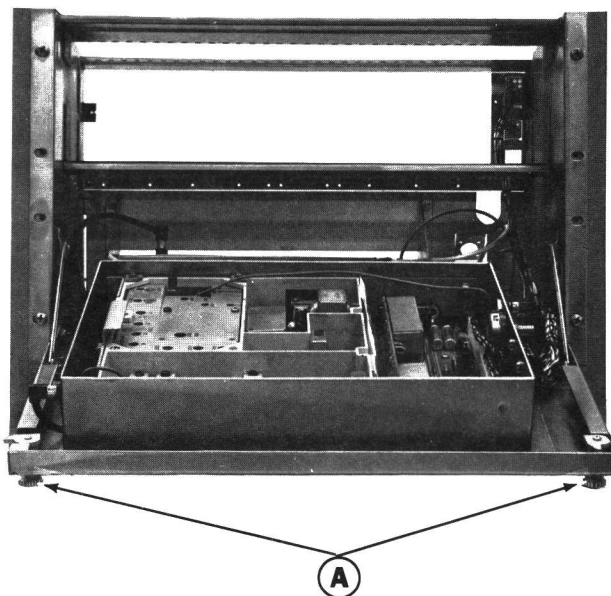

Figure 5 - Access to Exciter
1. Turn the two latching knobs (A) counter-clockwise to unlatch the Radio Panel Front Door. Refer to Figure 5.